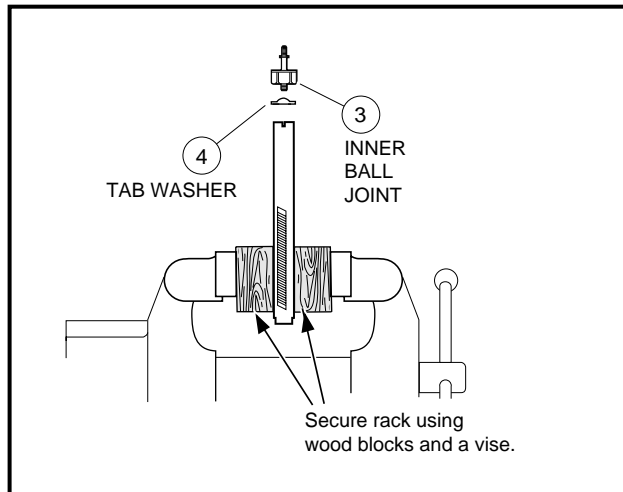

Figure 7-11 Secure Rack in Vise
13. If the inner ball joint (3) is excessively worn, remove the ball joint and tab washer (4) from the rack by securing the rack in a vise (**Figure 7-11, Page 7-9**). Using wood blocks between the rack and the jaws of the vise to protect the rack from damage, loosen and remove the inner ball joint with a wrench.
1. Install a new tab washer (4) and an inner ball joint (3) (**Figure 7-11, Page 7-9**). Install the ball joint onto the rack by securing the rack in a vise using wood blocks between the rack and the jaws of the vise to protect the rack from damage. Tighten the ball joint to 60 ft-lb (81 N·m).
2. Bend the edges of the tab washer (4) up against the ball joint (3) (**Figure 7-11, Page 7-9**).